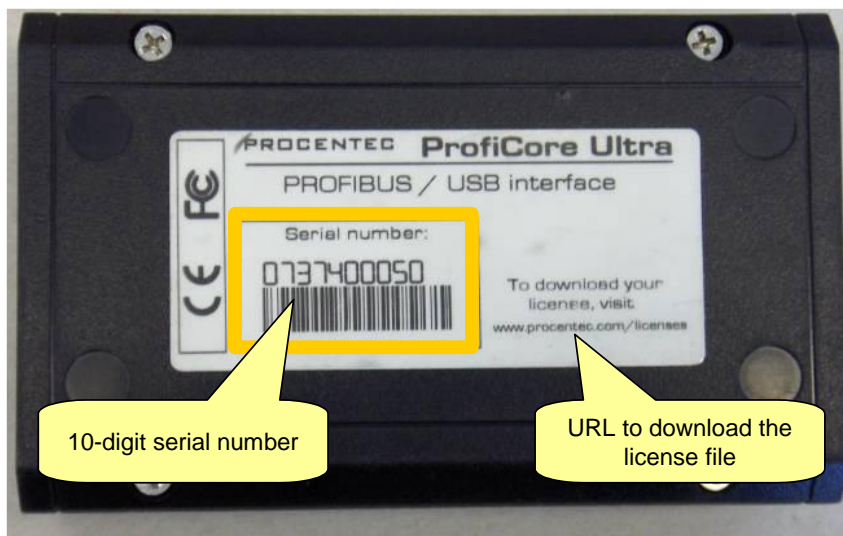

Fig. 5 - ProfiCore serial number
**Fig. 5** illustrates the serial number of the ProfiCore Ultra.
The license file for the ProfiCore Ultra in **Fig. 5** is: **ProfiCoreUltra2\_00050.PLD**